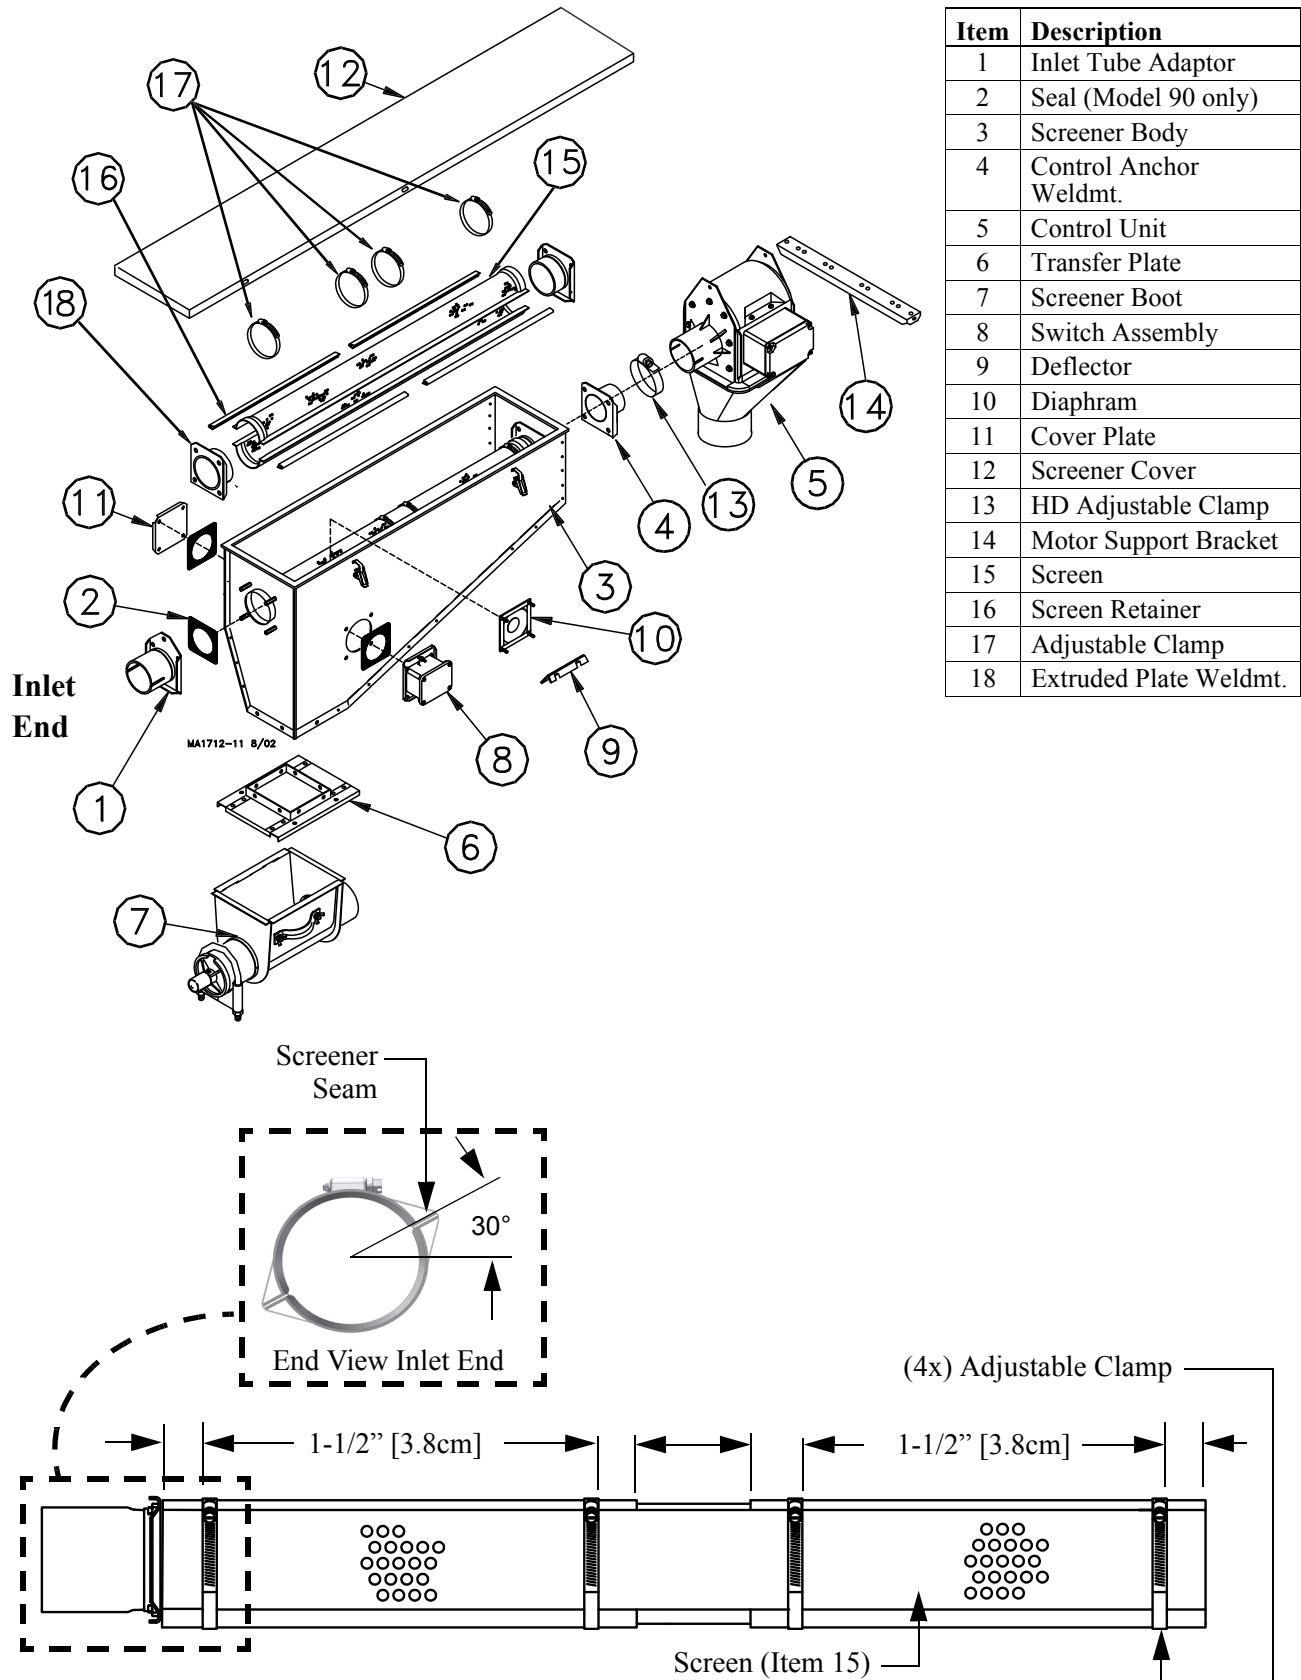

Figure 7. Model 90 and Model 108 Screener Assembly Procedure.
1. Assemble the Inlet Tube Anchor (**Item 1**) & Seal (**Item 2**) (packed with the Control Unit), on the incoming end of the Screener Body (**Item 3**), as shown in Figure 7. Hardware is provided.
Each of the four Clamps should be positioned approximately 1.5" [3.8cm] from the end of the model 90 Screen Retainers (**See Figure 7**).